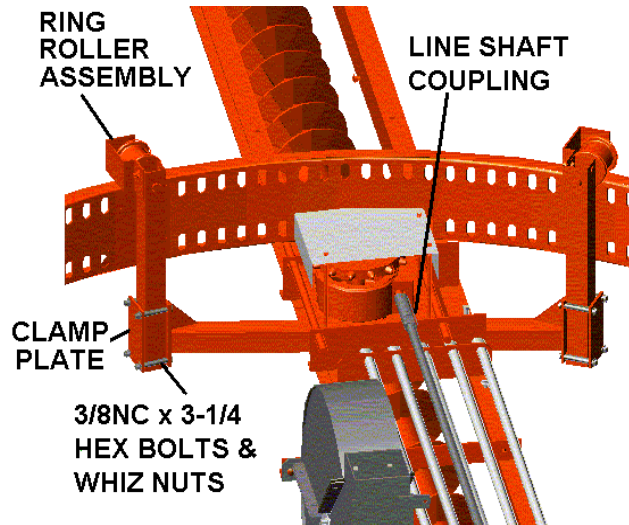

FIGURE 29
1. Lower the (3) tri-arms and drive ring sub-assembly down to the main unloader assembly.
2. Lower the transition assembly over the throat of the rotor housing. Bolt together with (4) 3/8" x 1" carriage bolts and whiz nuts. Insert bolts from inside.
3. Clamp a roller support assembly to each end of the roller bar. Use a clamp plate and (4) 3/8" x 3" hex bolts with whiz nuts. For an initial setting, clamp the vertical square tube of the roller support assembly with 5/8" extending below the clamp plate. See Figure 29.